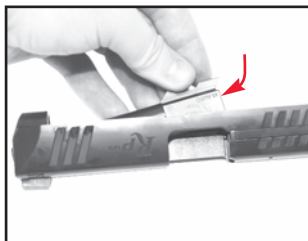

Figure 28
1. Insert the Barrel into the Slide. See Figure 28.